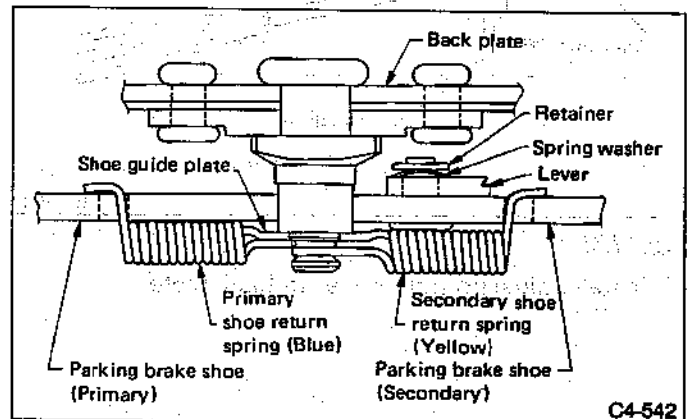

Fig. 122
f. Ensure that shoe return spring is installed as shown in Fig. 122.